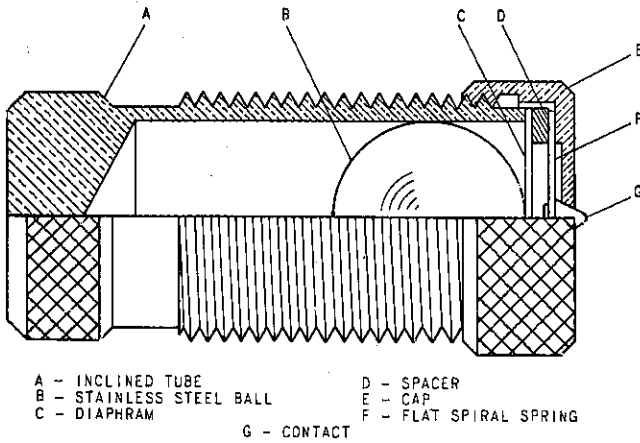

Fig. 3 Barrel Contact Assembly For Directional And Instantaneous Overcurrent Units
The contacts of both units shown in Fig. 3, are especially constructed to suppress bouncing. The stationary contact (G) is mounted on a flat spiral spring (F) backed up by a thin diaphragm (C). These are both mounted in a slightly inclined tube (A). A stainless steel ball (B) is placed in the tube before the diaphragm is assembled. When the moving contact hits the stationary contact, the energy of the former is imparted to the latter and then to the ball, which is free to roll up the inclined tube. Thus, the moving contact comes to rest with substantially no rebound or vibration. To change the stationary contact mounting spring, remove the contact barrel and sleeve as a complete unit after loosening the screw at the front of the contact block. Unscrew the cap (E). The contact and its flat spiral mounting spring may then be removed.